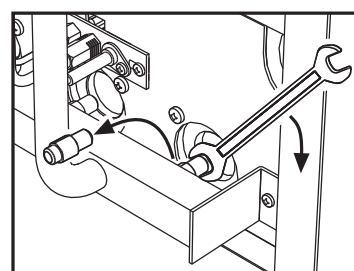
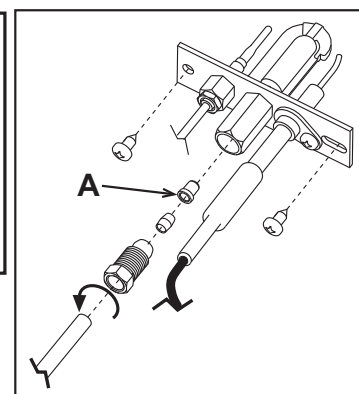

fig. 4
fig. 5
2. Replace the nozzles at the main burner (fig. 4) and pilot burner (A - fig. 5), fitting the nozzles specified in the technical data table on cap. 5, depending on the type of gas used.